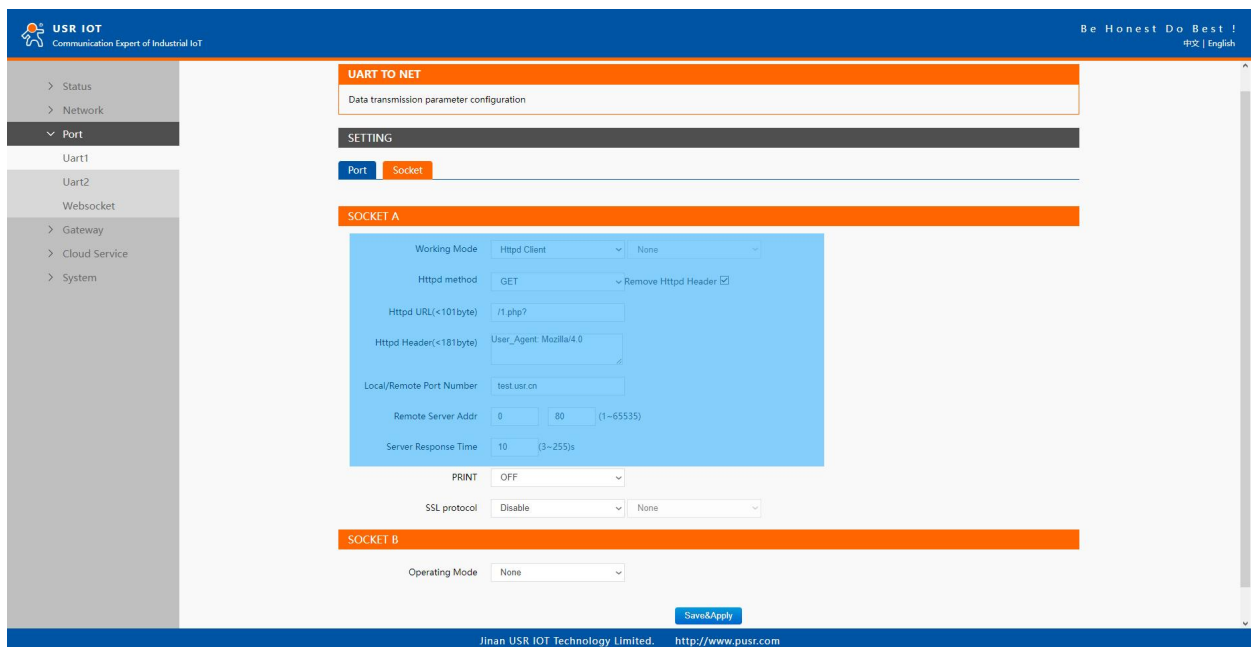

Fig. 49 HTTP client mode
Fig.49 shows an example of configuration setting for HTTP Client working mode under the Uart1 socket page. You can configure other serial ports in the same way.
1. Click on the "Uart1" tab on the menu frame on the left side of Web UI to go to Uart1 page as shown in Fig.49.